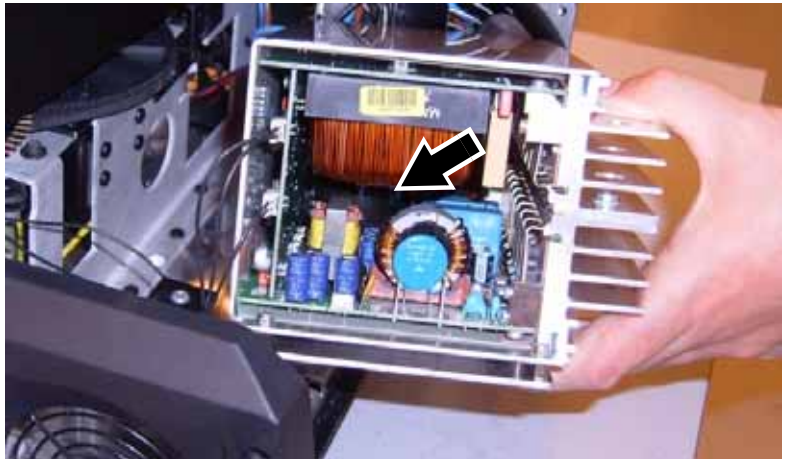

Figure 25
27. See Figure 25. Connect the reduced lamp power (dimmer) circuit leads supplied with the Upgrade Kit (P/N 11730006, see “K” in Table 1) to the lower low-voltage multi-connector X200 (arrowed) on the ballast PCB.